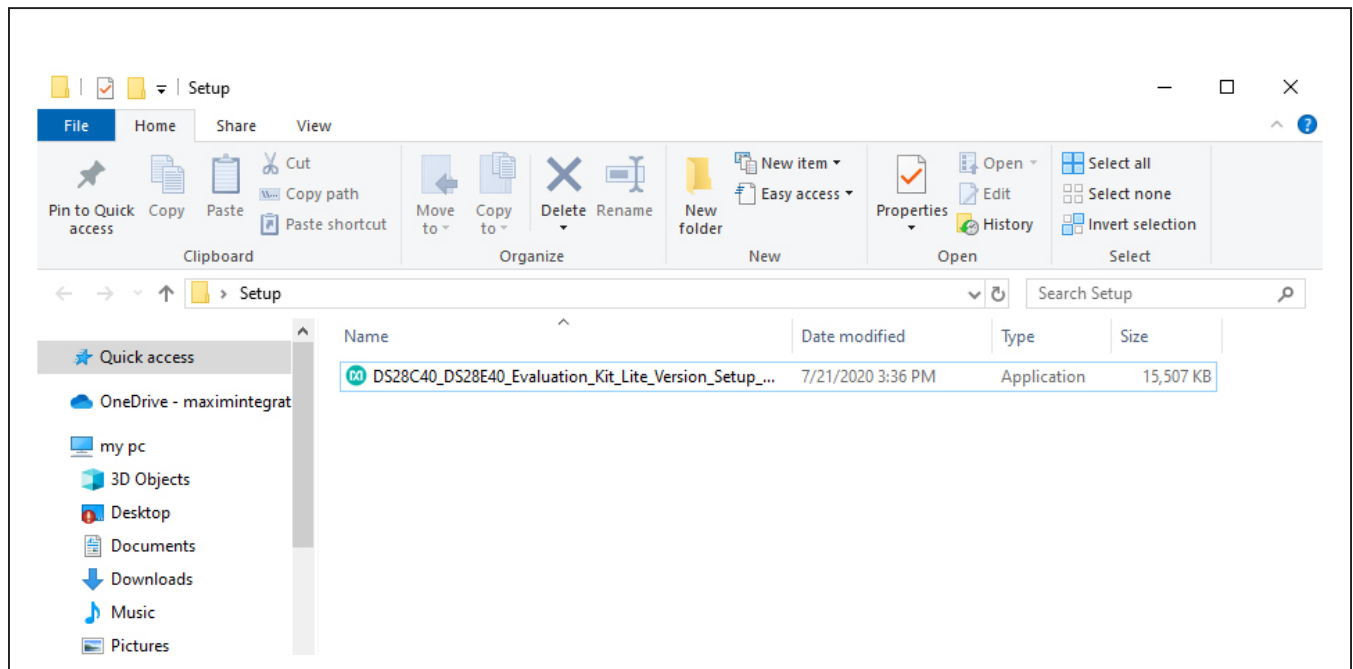

Figure 1. File Viewer
- 2) In a file viewer (Figure 1), double click on the **DS28C40\_DS28E40\_Evaluation\_Kit\_Lite\_Version\_Setup\_V2** file to begin the installation.